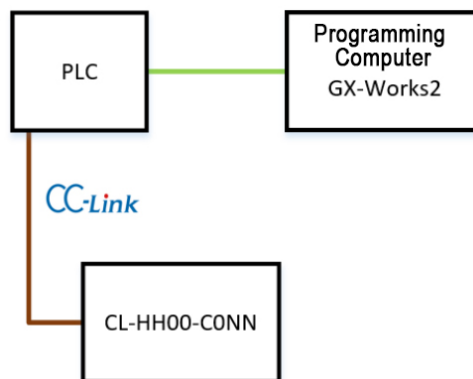

Fig. 5-4-1 Communication Link Diagram
1. See Fig. 5-4-1 for communication link diagram.